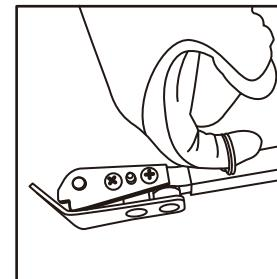

Fig 5
- B. When pulling overhead or from above, pull forward pin on Front Extension (6) and rotate 180 degrees and insert back into Base Arm (5) and re-install pin (Fig 5 and 6). Make a loop in the end of the polyline/mule tape and attach the eye around the Polyligne/Mule Tape Pin (10) from underside of the Capstan (1). This will allow the polyline/mule tape to continuously accumulate onto the Capstan (1). Switch the 18-Volt drill into FORWARD and payoff like most conventional wire pullers.